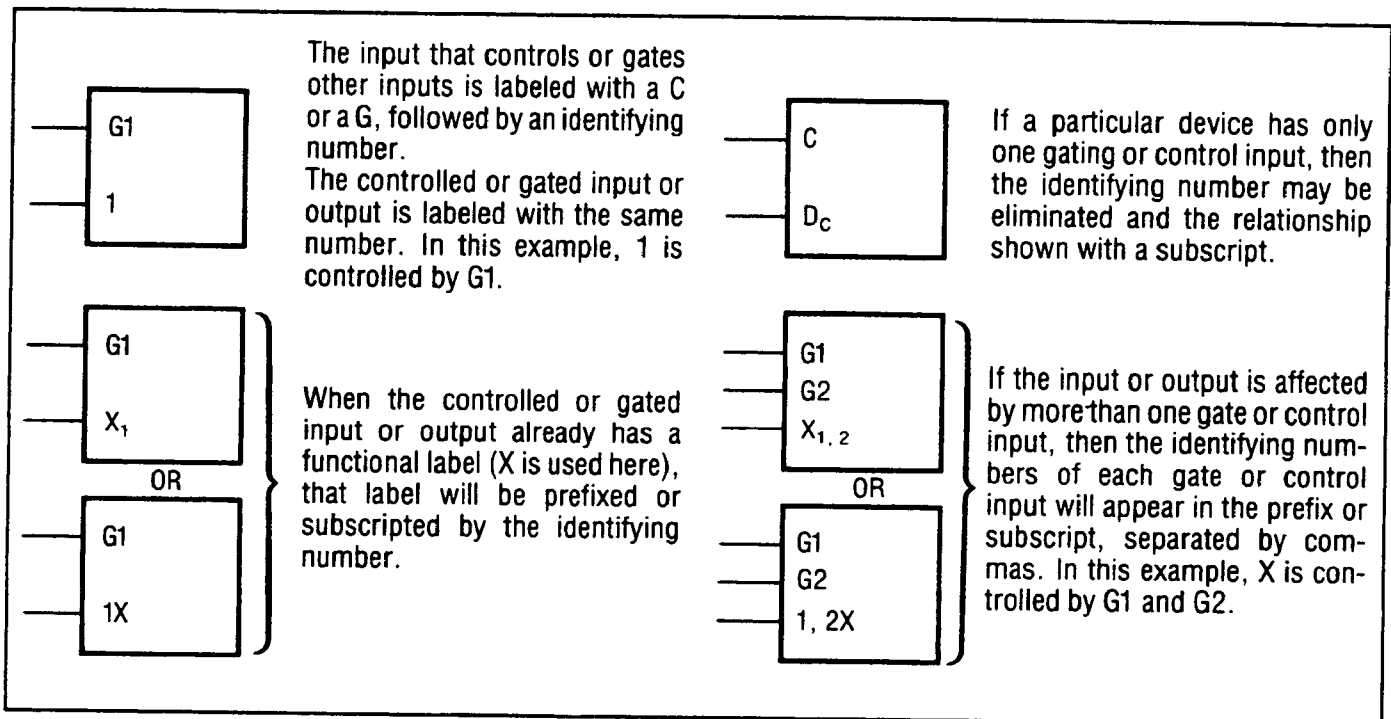

Figure 8-9. AND Dependency Notation
**Dependency Notation.** Dependency notation simplifies symbols for complex integrated circuit elements by defining the relationship between inputs and outputs without actually showing all the elements and connections involved (see Figures 8-9 through 8-11). The following examples use the letter A for address, C for control, G for AND, V for OR, and F for free dependencies.